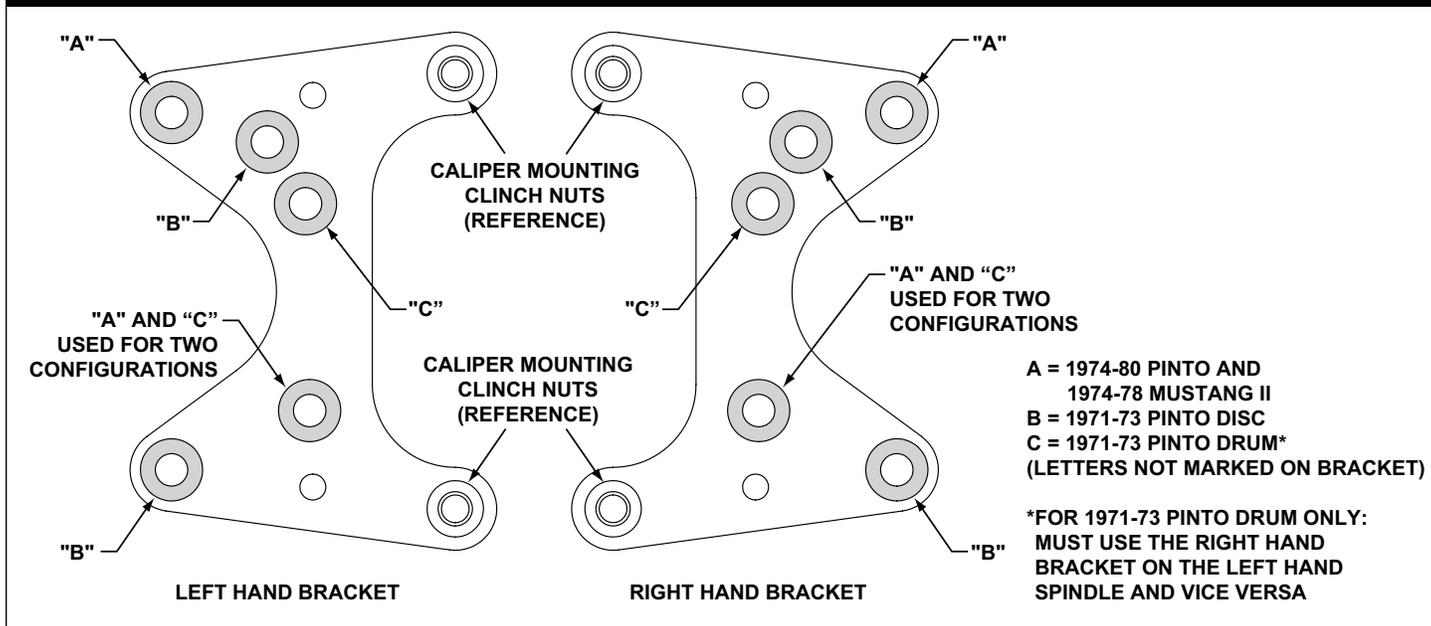
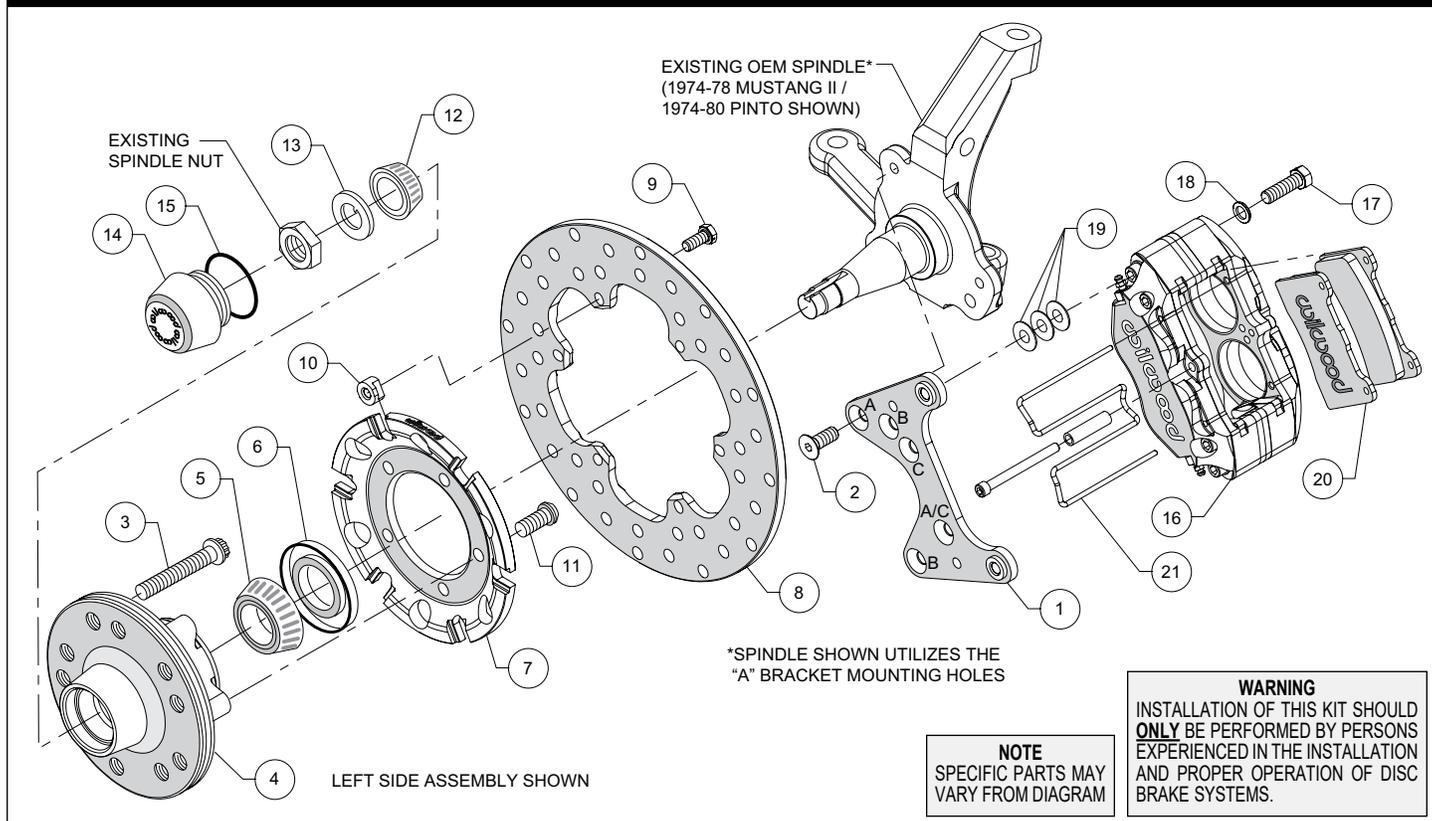
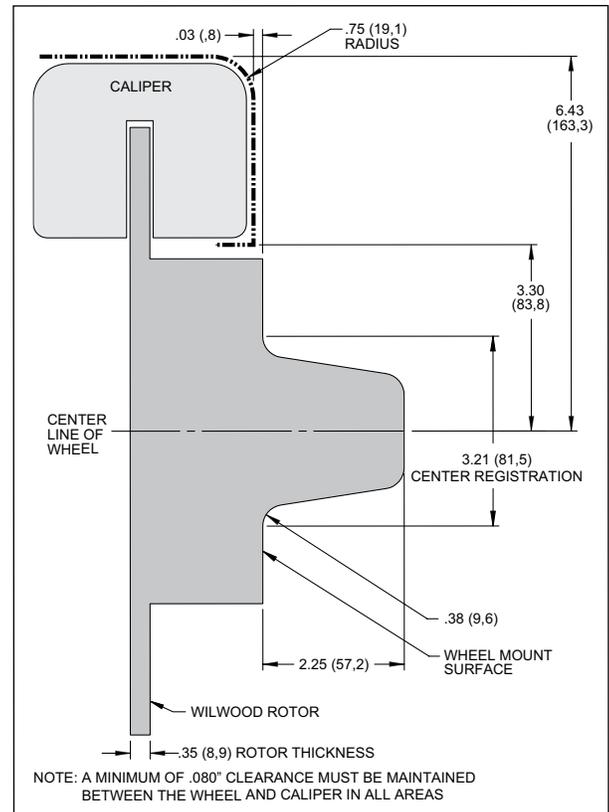
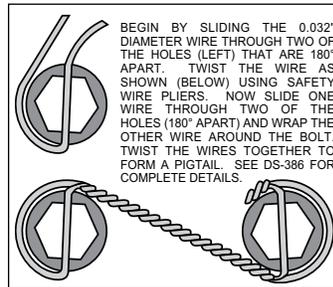

Figure 1. Wilwood Caliper Mounting Bracket
Figure 2. Typical Installation Configuration
Figure 3. Wheel Clearance Diagram
Figure 4. Safety Wire Diagram
- Review the Wheel Clearance Diagram (Figure 3, page 4) to verify that there is adequate clearance with the wheels you will be using with the installation.
This kit has been designed for use with three spindle configurations. The only difference is in how the Wilwood caliper mounting bracket is installed. The same bracket is used for all three configurations; the 1974-78 Mustang II/1974-80 Pinto, the 1971-73 Pinto disc and the 1971-73 Pinto drum spindle (see Figure 1). For your convenience we have supplied fasteners for all applications (see parts list and Figure 2 as necessary, items 2, 2A and 2B). Use the fasteners that are applicable to your vehicle and disregard the other items.
- Verify your wheel clearance using Figure 3.
NOTE: Numbers in parenthesis refer to the parts list and Figure 1 on the preceding pages.
•Orient the caliper mounting bracket (1) as shown in Figure 2 and Photo 1. Using the bracket holes indicated “A” in Figure 1, mount the bracket to the spindle with bolts (2), Photo 1. Temporarily tighten the mounting bolts. Ensure that the flanged heads of the clinch nuts in the bracket are facing outboard, Photo 1. **NOTE:** *The bracket must fit squarely against the mounting points on the spindle.* Inspect for interference from casting irregularities, machining ridges, burrs, etc. Remove bolts one at a time, apply red *Loctite*® 271 to threads and torque to 30 ft-lb.
•Orient the caliper mounting bracket (1) as shown in Photo 2. Using the bracket holes indicated “B” in Figure 1, mount the bracket to the spindle with bolt (2) and bolt (2A), Photo 2. Temporarily tighten the mounting bolts. Ensure that the flanged heads of the clinch nuts in the bracket are facing outboard, Photo 2. **NOTE:** *The bracket must fit squarely against the mounting points on the spindle.* Inspect for interference from casting irregularities, machining ridges, burrs, etc. Remove bolts one at a time, apply red *Loctite*® 271 to threads and torque bolt (2) to 30 ft-lb and bolt (2A) to 45 ft-lb.
•Orient the caliper mounting bracket (1) as shown in Photo 3. Using the bracket holes indicated “C” in Figure 1, mount the bracket to the spindle with bolts (2) and nuts (2B), Photo 3. **NOTE:** *For this application, the right hand bracket must be used on the left hand spindle, and vice versa.* Temporarily tighten the mounting bolts. Ensure that the flanged heads of the clinch nuts in the bracket are facing outboard, Photo 3. **NOTE:** *The bracket must fit squarely against the mounting points on the spindle.* Inspect for interference from casting irregularities, machining ridges, burrs, etc. Remove nuts one at a time, apply red *Loctite*® 271 to the bolt threads and torque nuts to 30 ft-lbs.
•Install wheel studs (3) into the hub (4), Photo 4. Torque to 77 ft-lb. **NOTE:** *There are two five lug patterns in the hub (5 x 4.50 and 5 x 4.75).* Ensure the correct hub stud pattern is being used to fit the wheel application.
•Pack the large inner bearing cone (5) with high temperature disc brake bearing grease (available from your local auto parts store) and install into the backside of the hub (4), Photo 5.
•Install the grease seal (6) by pressing into the backside of the hub (4), flush with the end of the hub, Photo 5.
•Orient the rotor (8) and the rotor adapter (7) as shown in Figure 2 and Photo 6. Attach the rotor to the adapter using bolts (9) and T-nuts (10). Apply red *Loctite*® 271 to the bolt threads and torque to 220 in-lb using a criss-cross pattern.. Safety wire bolts using standard 0.032 inch diameter stainless steel safety wire as shown in Figure 4. Refer to Wilwood’s data sheet DS-386 (available at www.wilwood.com/Pdf/DataSheets/ds386.pdf) for complete safety wire installation instructions.
- Mount the adapter/rotor assembly (7 and 8) to the hub (4) using bolts (11), as shown in Figure 2 and Photo 7. Using an alternating sequence, apply red *Loctite*® 271 to the threads, and torque to 45 ft-lb.
- Pack the small outer bearing cone (12) with high temperature disc brake bearing grease and install into hub (4). Slide the hub/ rotor assembly onto the spindle. Secure using spindle washer (13) and OEM spindle nut, Photo 8. Adjust bearings per OEM specifications. Install saved OEM nut lock (if any) and a new cotter pin (not included).
- Screw dust cap (14) into hub (4), Photo 9. Friction created by the o-ring (15) on the dust cap keeps it from unscrewing. **NOTE:** *The O.D. of the existing OEM spindle washer may be larger than the I.D. of the dust cap not allowing it to seat against the hub face. Therefore, use the spindle washer (13) supplied with the kit instead of the OEM washer.*
- NOTE:** *Please reference the caution statement at the beginning of the assembly instructions.* Mount the caliper (16) onto the caliper mounting bracket (1) using bolts (17) and washers (18), as shown in Figure 1. Initially place three .035" thick shims (19) on each bolt between the caliper and the bracket, Photo 10. Temporarily tighten the mounting bolts and view the rotor (8) through the top opening of the caliper. The rotor should be centered enough in the caliper so that the pads will install easily, Photo 11. If not, adjust by adding or subtracting shims (19) between the bracket and caliper. Always use the same amount of shims on each of the two mounting bolts. **CAUTION:** *Do not exceed four shims (19) per bolt.* **NOTE:** *The end of each bolt must be flush with or slightly protruding from the head of the clinch nut, as shown in Figure 5.* If necessary place spare shims between washer (18) and caliper mounting ear to achieve the proper clinch nut engagement. Once the caliper alignment and clinch nut engagement are correct, remove the bolts one at a time, apply red *Loctite*® 271 to bolt threads, and torque to 40 ft-lb. For an added measure of security, the bolts may be safety wired using standard 0.032 inch diameter stainless steel safety wire as shown in Figure 3. Refer to Wilwood's data sheet DS-386 (available at www.wilwood.com/Pdf/DataSheets/ds386.pdf) for complete safety wire installation instructions.
- Install the disc brake pads (20) into the caliper (16), with the friction material facing the rotor (8), Photo 12, and secure in place using pad retainer clip (21), Photo 13.